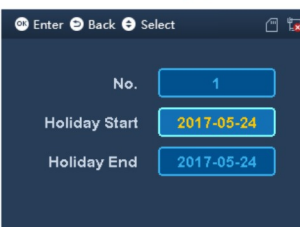

Figure 2-17
Click ✖, switch to function key above, click + and click ③. See Figure 2-17.